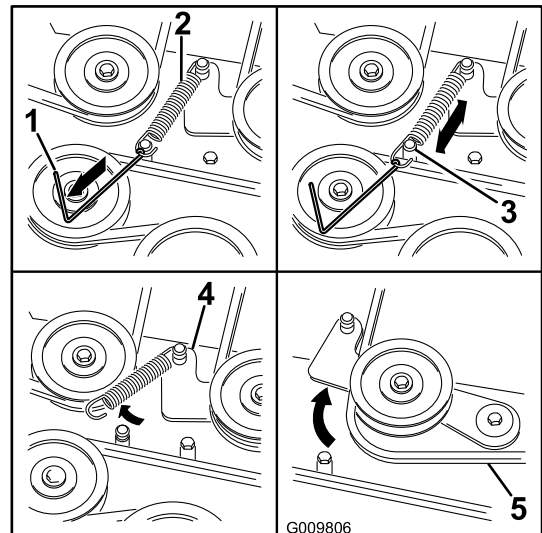

Figure 73
8. Using a spring removal tool, (Toro Part No. 92-5771), remove the idler spring from the deck post to remove tension on the idler pulley (Figure 73).
11. Install the new belt around the mower pulleys and the clutch pulley under the engine (Figure 73).
12. Using a spring-removal tool, (Toro Part No. 92-5771), install the idler spring over the deck post and placing tension on the idler pulley and mower belt (Figure 73).